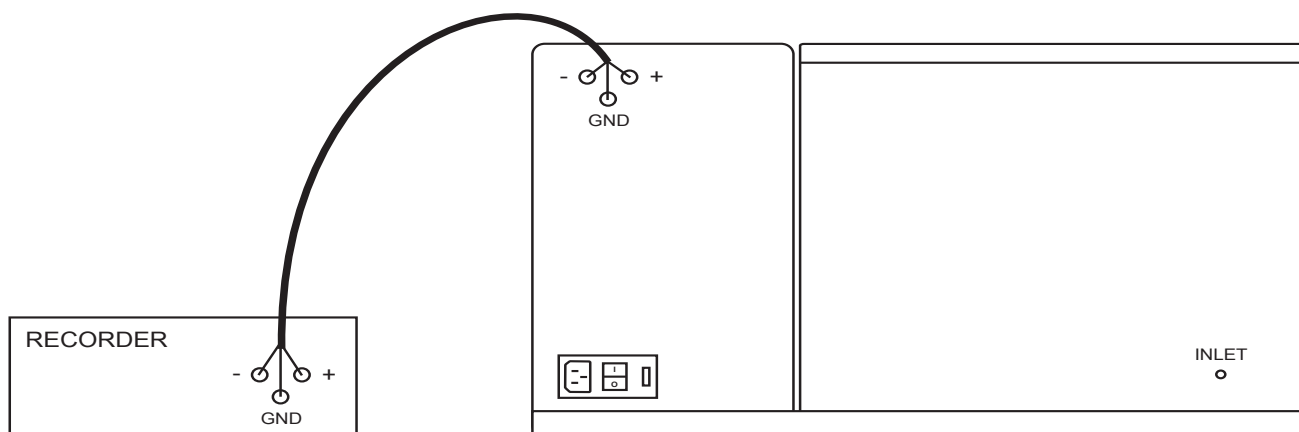

Figure 3-1
1. Connect one end of the recorder cable to the terminals located at the rear of the G.C. (Figure 3-1). Connection should be made as follows: